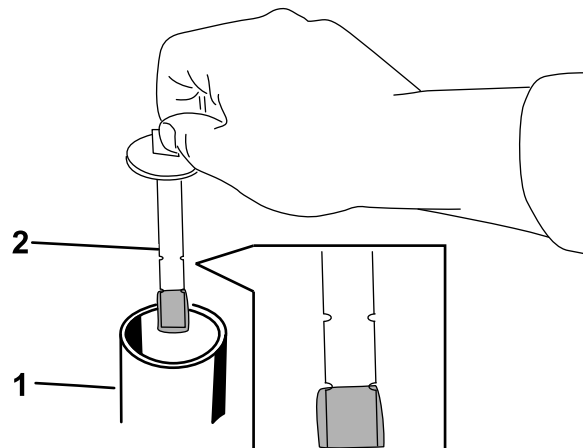

Figure 77
5. Remove the hydraulic-tank cap and dipstick (Figure 77).